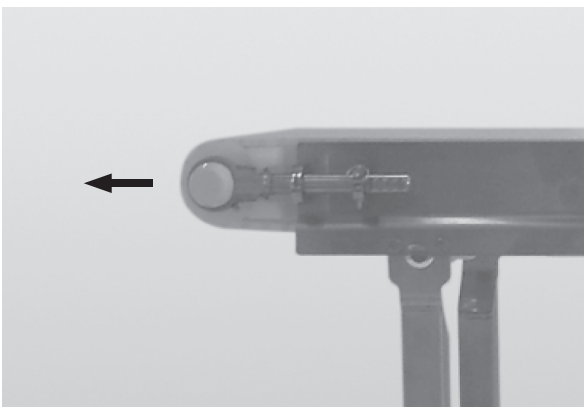

Figure 31
7. Extend the tension end to remove excess slack in the belt (**Figure 31**).